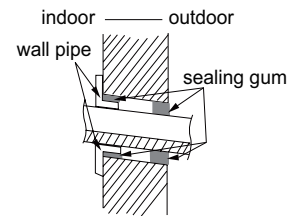

Fig.15
2. Stuff the gap between pipes and wall hole with sealing gum. (As show in Fig.15)